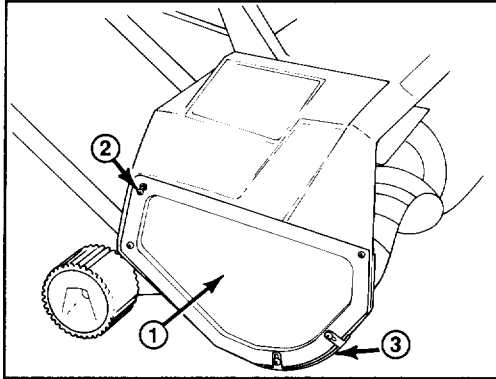

Figure 8
1. Remove (5) screws securing right side cover and skid to snowthrower frame (Fig. 8).